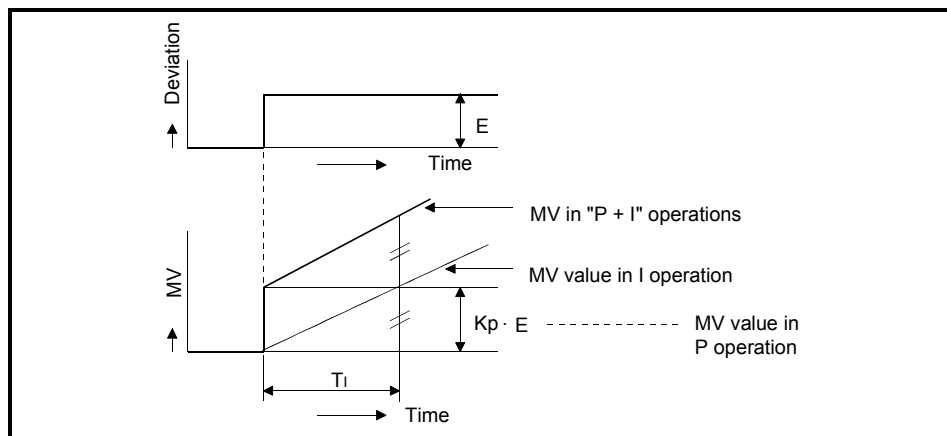

Fig. 4.3 Integral Operation with a Constant Deviation
- (3) The integral operation in step response with a constant E (deviation) is illustrated in Fig. 4.3.